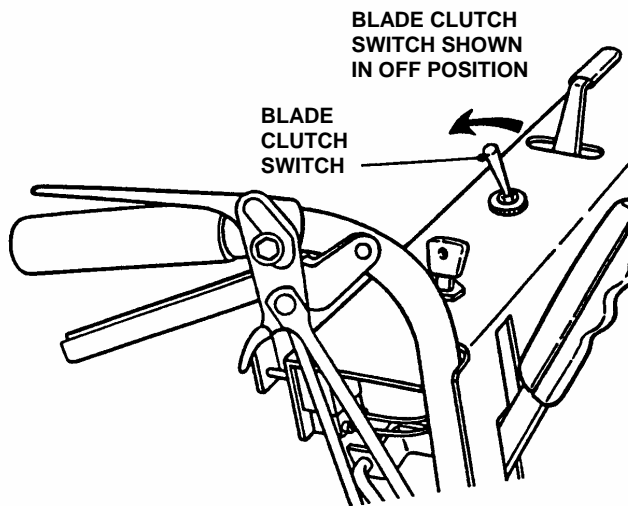

FIGURE 3.7
14. Pull the Blade Clutch Switch rearward to the **OFF** position. See Figure 3.7.